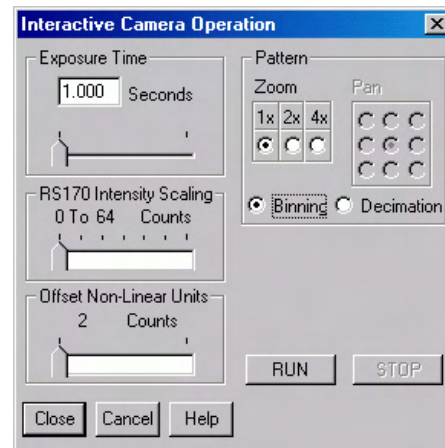

Figure 55. ST-133
2. Select **Video Focus** from the Acquisition Menu. The **Interactive Camera** dialog box (Figure 55) will open.